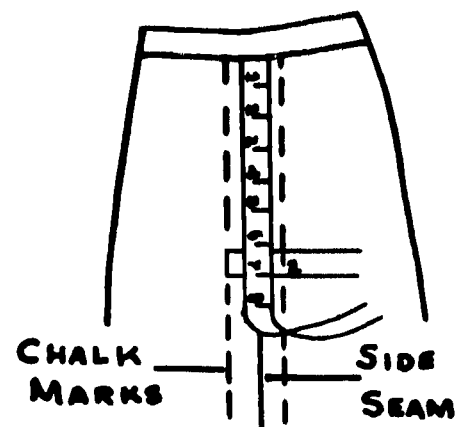

Figure 36.
3. Remove the pins. Measure and record the amount between the chalk marks at the waistline and hip line (see Figure 36).